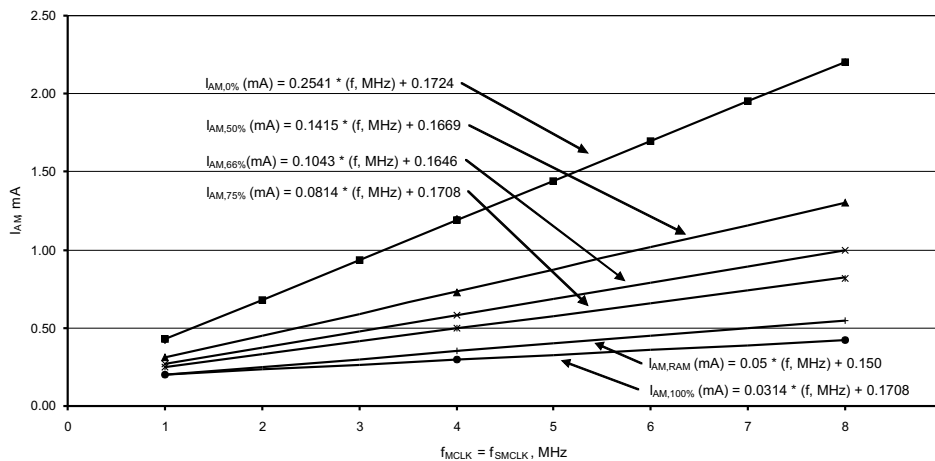

图 5-1. Typical Active Mode Supply Currents, No Wait States
- (6) See Figure 5-1 for typical curves. Each characteristic equation shown in the graph is computed using the least squares method for best linear fit using the typical data shown in .